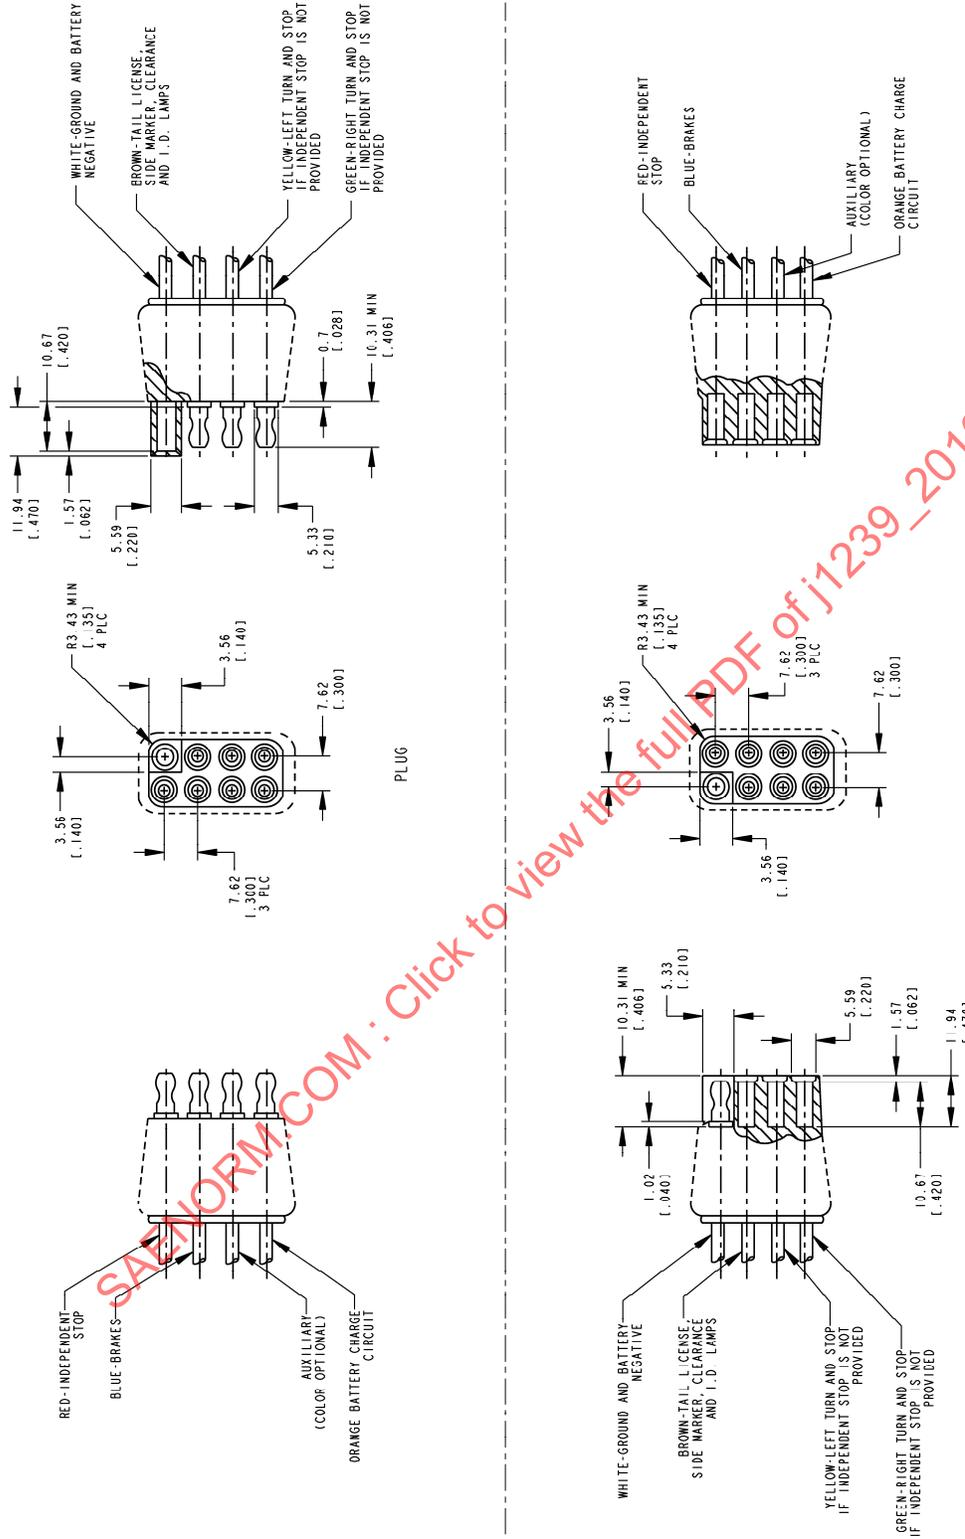

FIGURE 3 - EIGHT WAY RECEPTACLE
The eight-way towing vehicle receptacle shall be of the configuration and design dimensions shown in Figure 3 color-coded as follows:
- c. Optional - Auxiliary (see Figure 3, Note 1)
The eight-circuit plug (Figure 3) shall be color coded as follows: